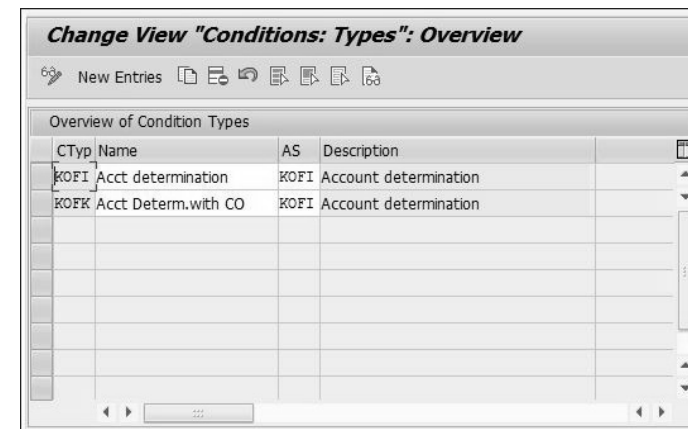

Figure 5.34 Account Determination Types
After setting up the access sequence, the account determination condition type should be configured by following menu path **Sales and Distribution • Basic Functions • Account Assignment/Costing • Revenue Account Determination • Define Access Sequences and Account Determination Types • Define Account Determination Types**. After executing the given path, click on the **New Entries** button to assign the condition type (CTyp) with the access sequence (AS). Standard account determination types **KOFI** and **KOFK** are shown in Figure 5.34.